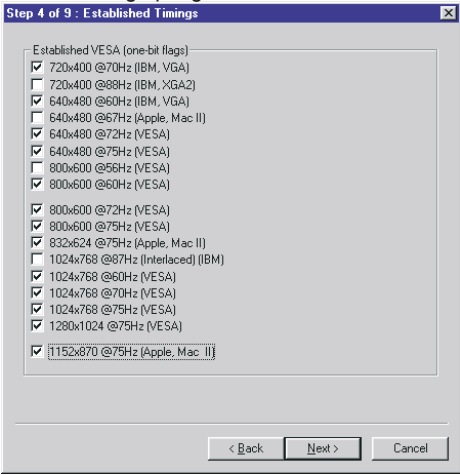

Fig.21
3. Click Next , bring up Fig. 21.